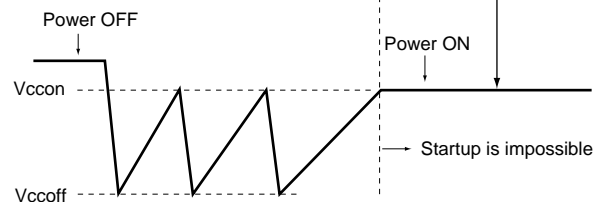

Fig. 22 Image of  $V_{CC}$  waveform when re-startup is impossible
After that, re-startup by power-on can not be guaranteed even when equation (8) is satisfied. The image of that the startup is impossible is shown in Fig. 22. It is necessary to startup IC that supply current  $I_{CC}$  (startup) to  $V_{CC}$  is over 4mA in the condition of  $T_J < 100^\circ C$  during  $V_{CC}$  is kept at  $V_{CCON}$  ( $\approx 16V$ , balance state at  $V_{CCON}$  after the repeated operation).